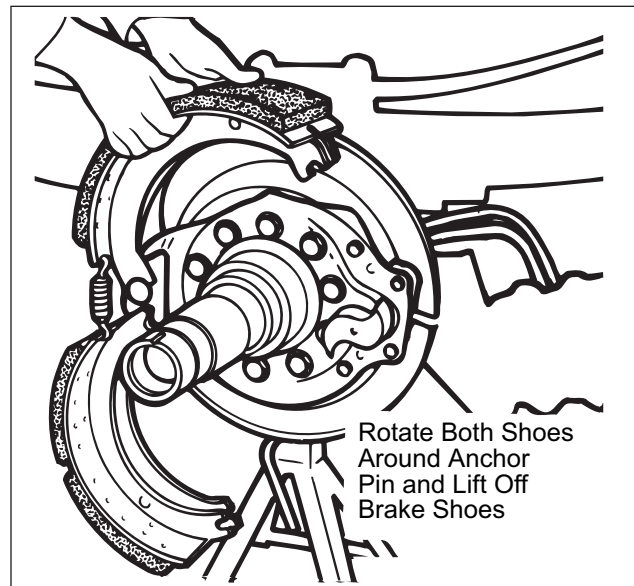

Figure 15. Shoe Removal
7. Rotate both shoes around anchor pin and remove from vehicle. Refer to Figure 15.